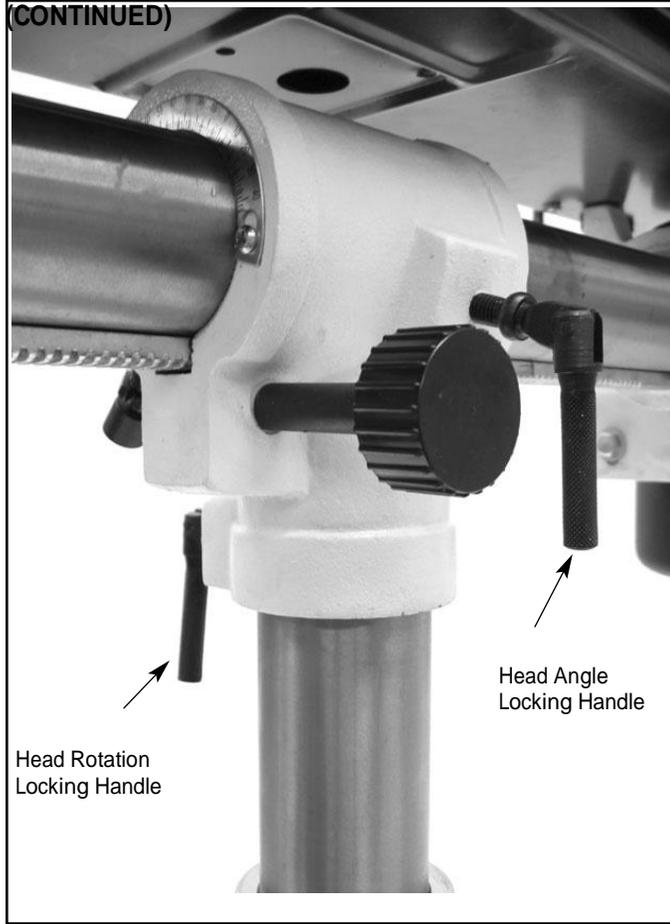

Figure 10 - Secure Head Assembly
- Secure head assembly into position by tightening the locking handles (see Figure 10, page 6).